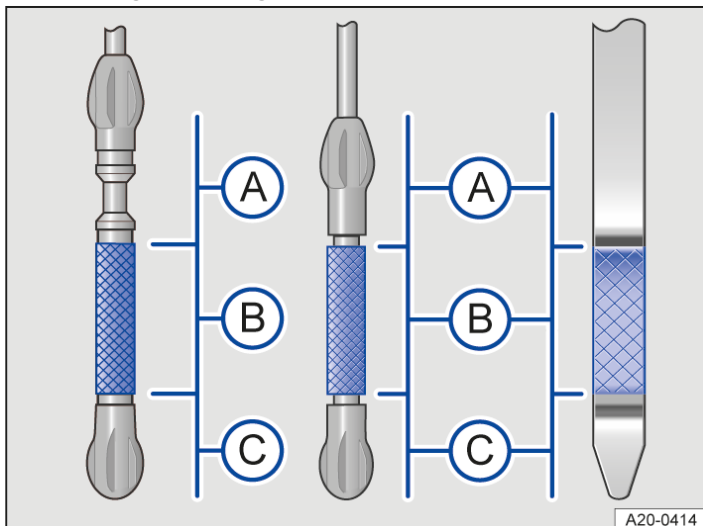

Fig. 2 Engine oil level markings on the oil dipstick (versions).
3. Remove the dipstick again and read the oil level on the dipstick as described below → *fig. 2*:
- (A) Engine oil level too high – if necessary follow the messages in the instrument cluster display or contact suitably qualified professionals for assistance. Volkswagen recommends contacting an authorized Volkswagen dealer or authorized Volkswagen Service Facility.
- (B) Oil level in the normal range. Engine oil can be added up to the upper edge of this area, for example if there is heavy engine load .
- (C) The engine oil level is too low. Add engine oil immediately and, if necessary, pay attention to the messages in the instrument cluster display.